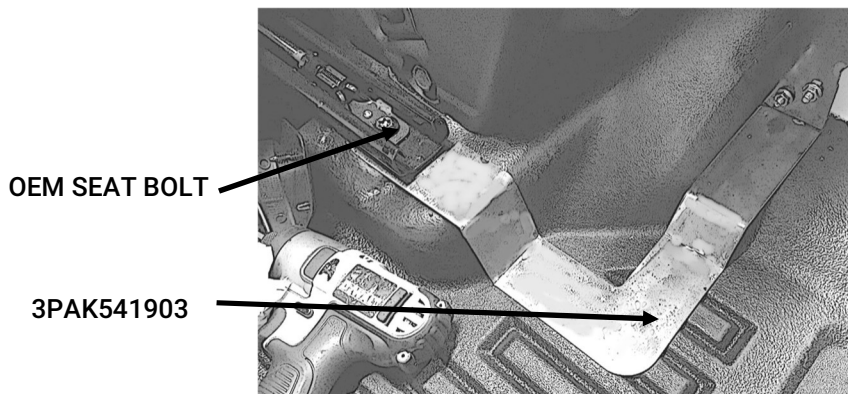

Figure 3
- Remove OEM bolt from seat track. Insert center floor bracket [3PAK541903] under track and re-install bolt (Fig. 3).